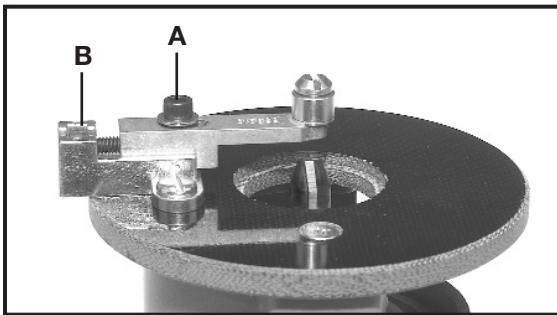

Fig. 4
- Align roller guide with bit by loosening locking screw (A) Fig. 4, and turning adjusting screw (B) Fig. 4, (with hex wrench provided), until guide is in desired location.